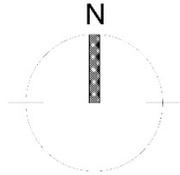

FIGURE 3-12. North Arrow
4.2.3.4.2 The north arrow (Figure 3-12) shall be placed above the drawing area title bar at the right side of the title bar. If possible, the orientation of true north shall be maintained throughout an entire drawing set. The orientation of true north shall be coordinated with the requirements of paragraphs 3.2.4 and 3.2.5. Architectural plans shall be adjusted so that the building grid is parallel to the sheet grid in accordance with paragraph 3.2.3.